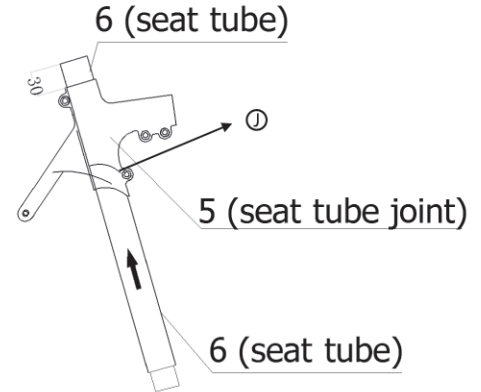

Figure 10-2.
c. Adjust the height of Part 6 and position it about 30 mm higher than Part 5, as shown in Figure 10-2.